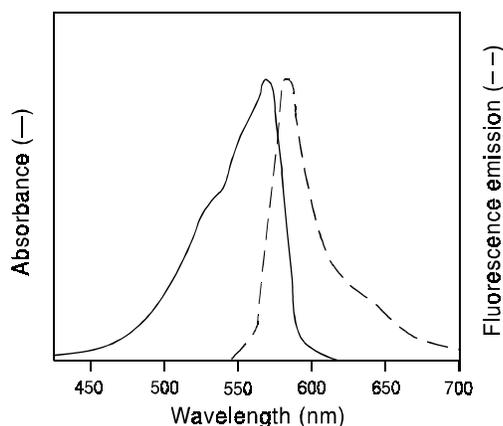

Figure 1. Normalized absorption and fluorescence emission spectra of resorufin, the product of the Amplex Red reagent.
The Amplex[®] Red Acetylcholine/Acetylcholinesterase Assay Kit provides an ultrasensitive method for continuously monitoring acetylcholinesterase (AChE) activity or for detecting acetylcholine (ACh) in a fluorescence microplate reader or fluorometer. Potential uses for this kit include screening for AChE inhibitors and measuring the release of ACh from synaptosomes. In the assay, AChE activity is monitored indirectly using 10-acetyl-3,7-dihydroxyphenoxazine (Amplex Red reagent), a sensitive fluorogenic probe for H₂O₂.¹ First, AChE converts the acetylcholine substrate to choline. Choline is in turn oxidized by choline oxidase to betaine and H₂O₂, the latter of which, in the presence of horseradish peroxidase, reacts with Amplex Red reagent in a 1:1 stoichiometry to generate the highly fluorescent product resorufin.^{1,2} Because resorufin has absorption and fluorescence emission maxima of approximately 571 nm and 585 nm, respectively (Figure 1), there is little interference from autofluorescence in most biological samples.
2.8 Measure the fluorescence in a fluorescence microplate reader using excitation in the range of 530–560 nm and emission detection at ~590 nm (see Figure 1).
3.8 Measure the fluorescence in a fluorescence microplate reader using excitation in the range of 530–560 nm and emission detection at ~590 nm (see Figure 1).